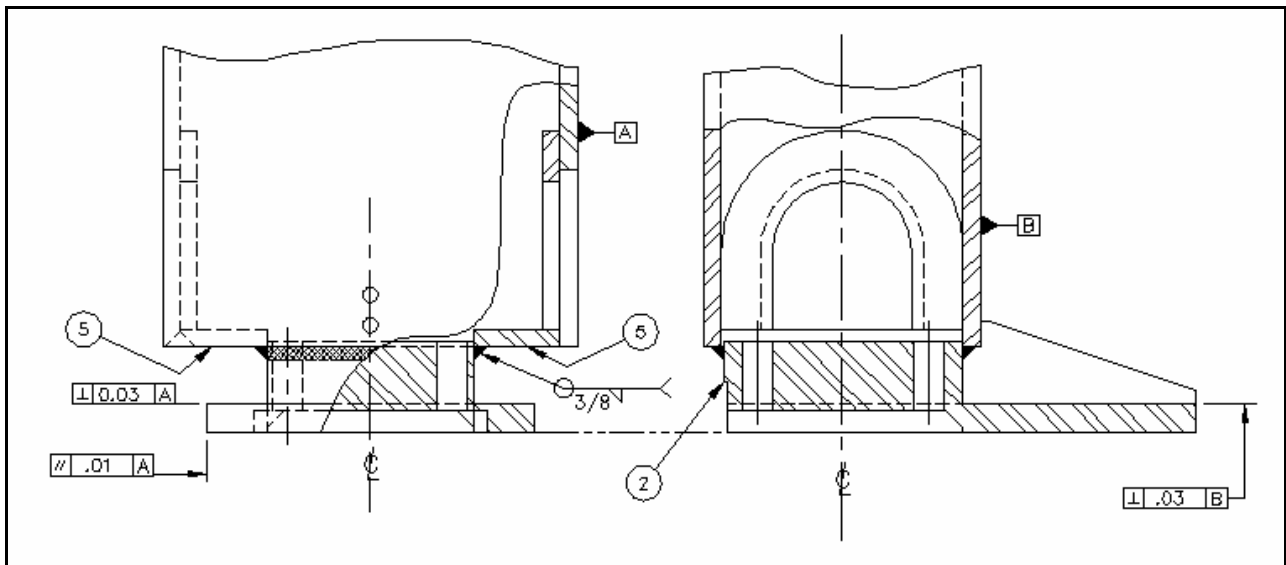

Figure 5: Slide/Inner Tube Joint
3. Make a 3/8" fillet weld using Low Hydrogen E7018-1/8" rod or equivalent (see Notes) along the prepped area as shown in figure 5.